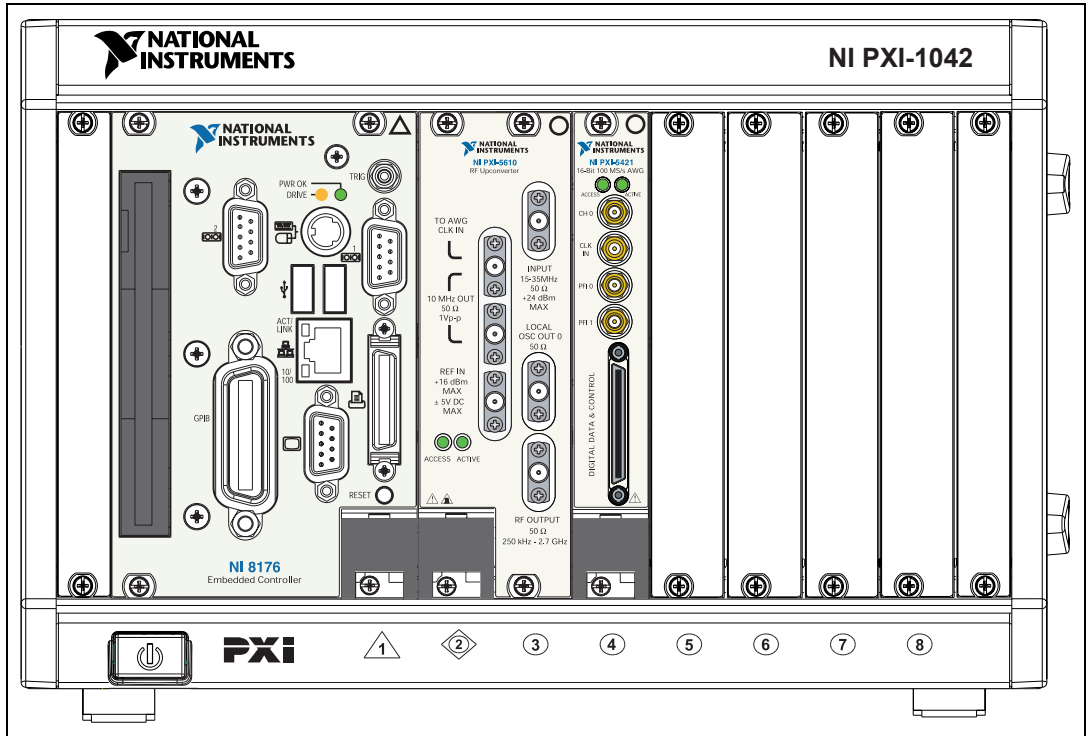

Figure 1-6. Install All PXI Filler Panels after Hardware Installation
- Install all chassis covers and filler panels after installing your NI 5670 modules, as shown in Figure 1-6. Missing filler panels disrupt the necessary air circulation in the chassis.